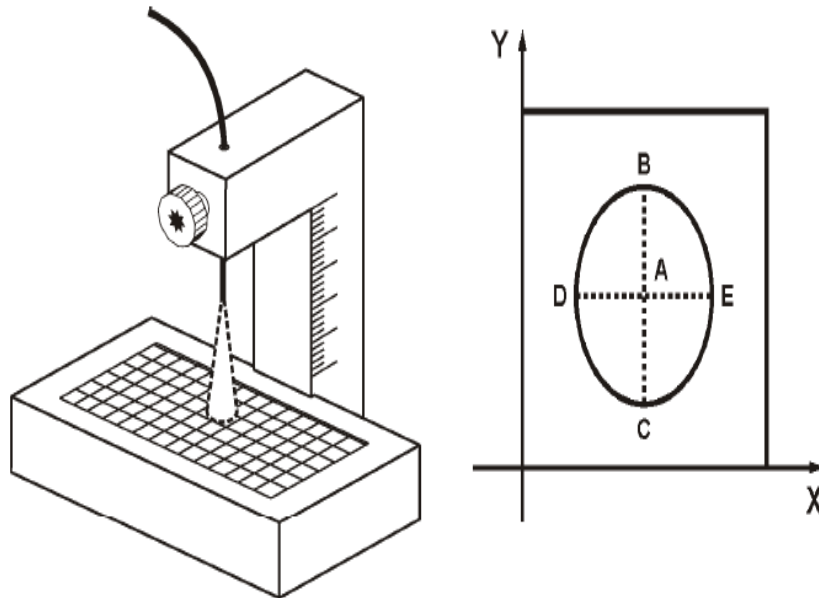

Fig.1
4. Connect the fiber cable one end to Transmitter module another end to Numerical Aperture setup (Fig1).